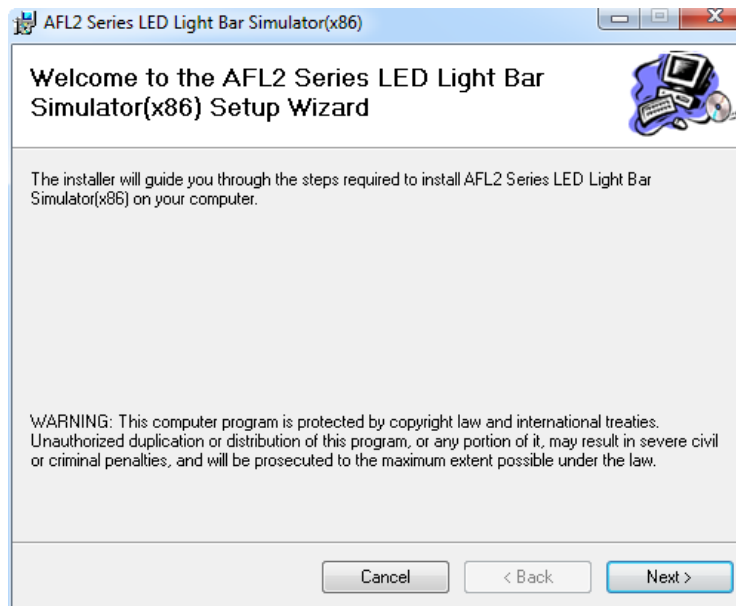

Figure 2-1: The Setup Wizard Starts
- Step 3:** The **Setup Wizard** starts (**Figure 2-1**).